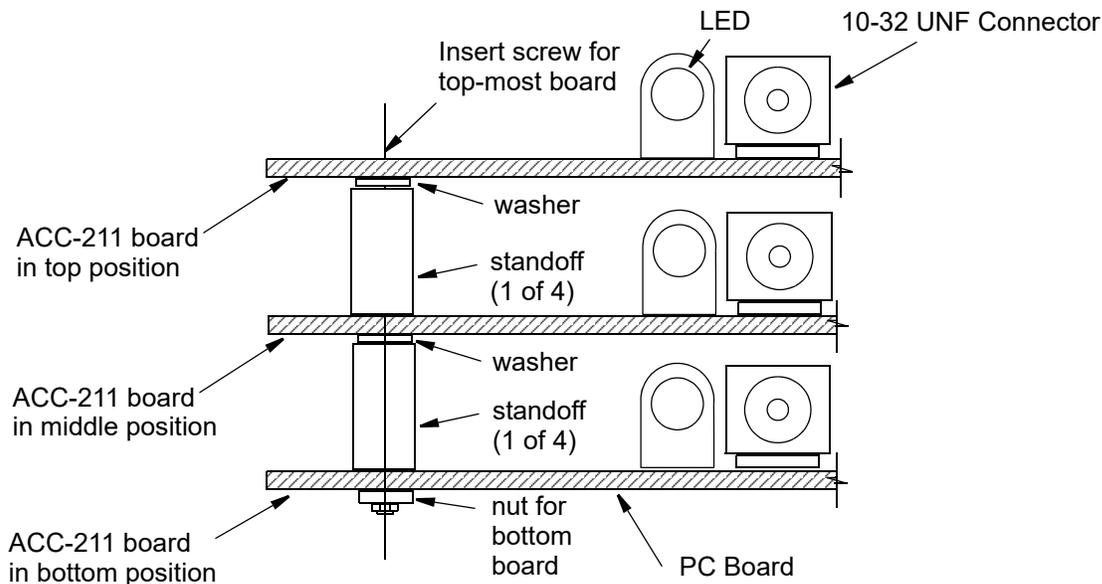

Figure A-2 Mounting Multiple DNA-ACC-211 Breakout Boards
If your installation uses multiple DNA-AI-211 boards inserted into a DNA Cube in adjacent slot positions, you must use special care and hardware (supplied with the units) in mounting the associated ACC-211 boards so as to avoid short circuits between coaxial connector on adjacent boards. To do this, refer to **Figure A-2** and execute the procedure described below.
- STEP 2:** Pre-assemble the multiple ACC-211 boards by mounting standoffs, washers, nuts, and retaining screws at each corner of the board as shown in **Figure A-2**. Be sure to use a screw in the top-most breakout board and a nut for the bottom board.